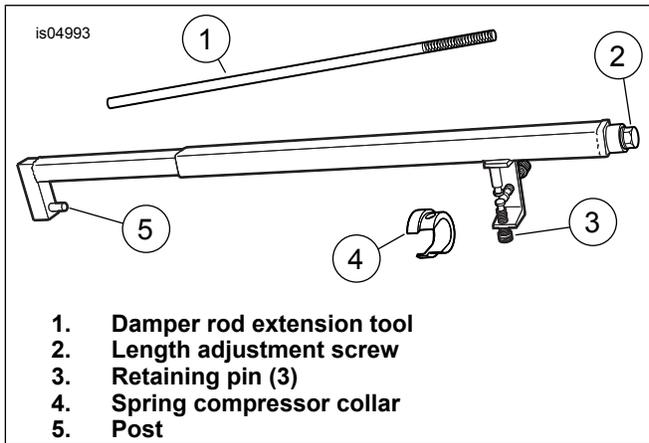

Figure 4. Fork Spring Compressing Tool (HD-45966)
17. See Figure 4. Install fork spring compressing tool:
- Clamp tool in vise in a vertical position with length adjustment screw (2) upward.
- Place hole at bottom of fork slider over post (5) at bottom end of tool.
- Place flat washer (Item 5, Figure 7), over the damper rod extension tool and on top of spring. Place spring seat (Item 4, Figure 7), concave side up, on top of the flat washer. With the smaller OD upward, place spring compressor collar (item 4, Figure 4) over spring seat and flat washer.
- Adjust tool as necessary until three retaining pins (3) engage blind holes in spring compressor collar (4). Turn length adjustment screw counterclockwise to lengthen and clockwise to shorten.